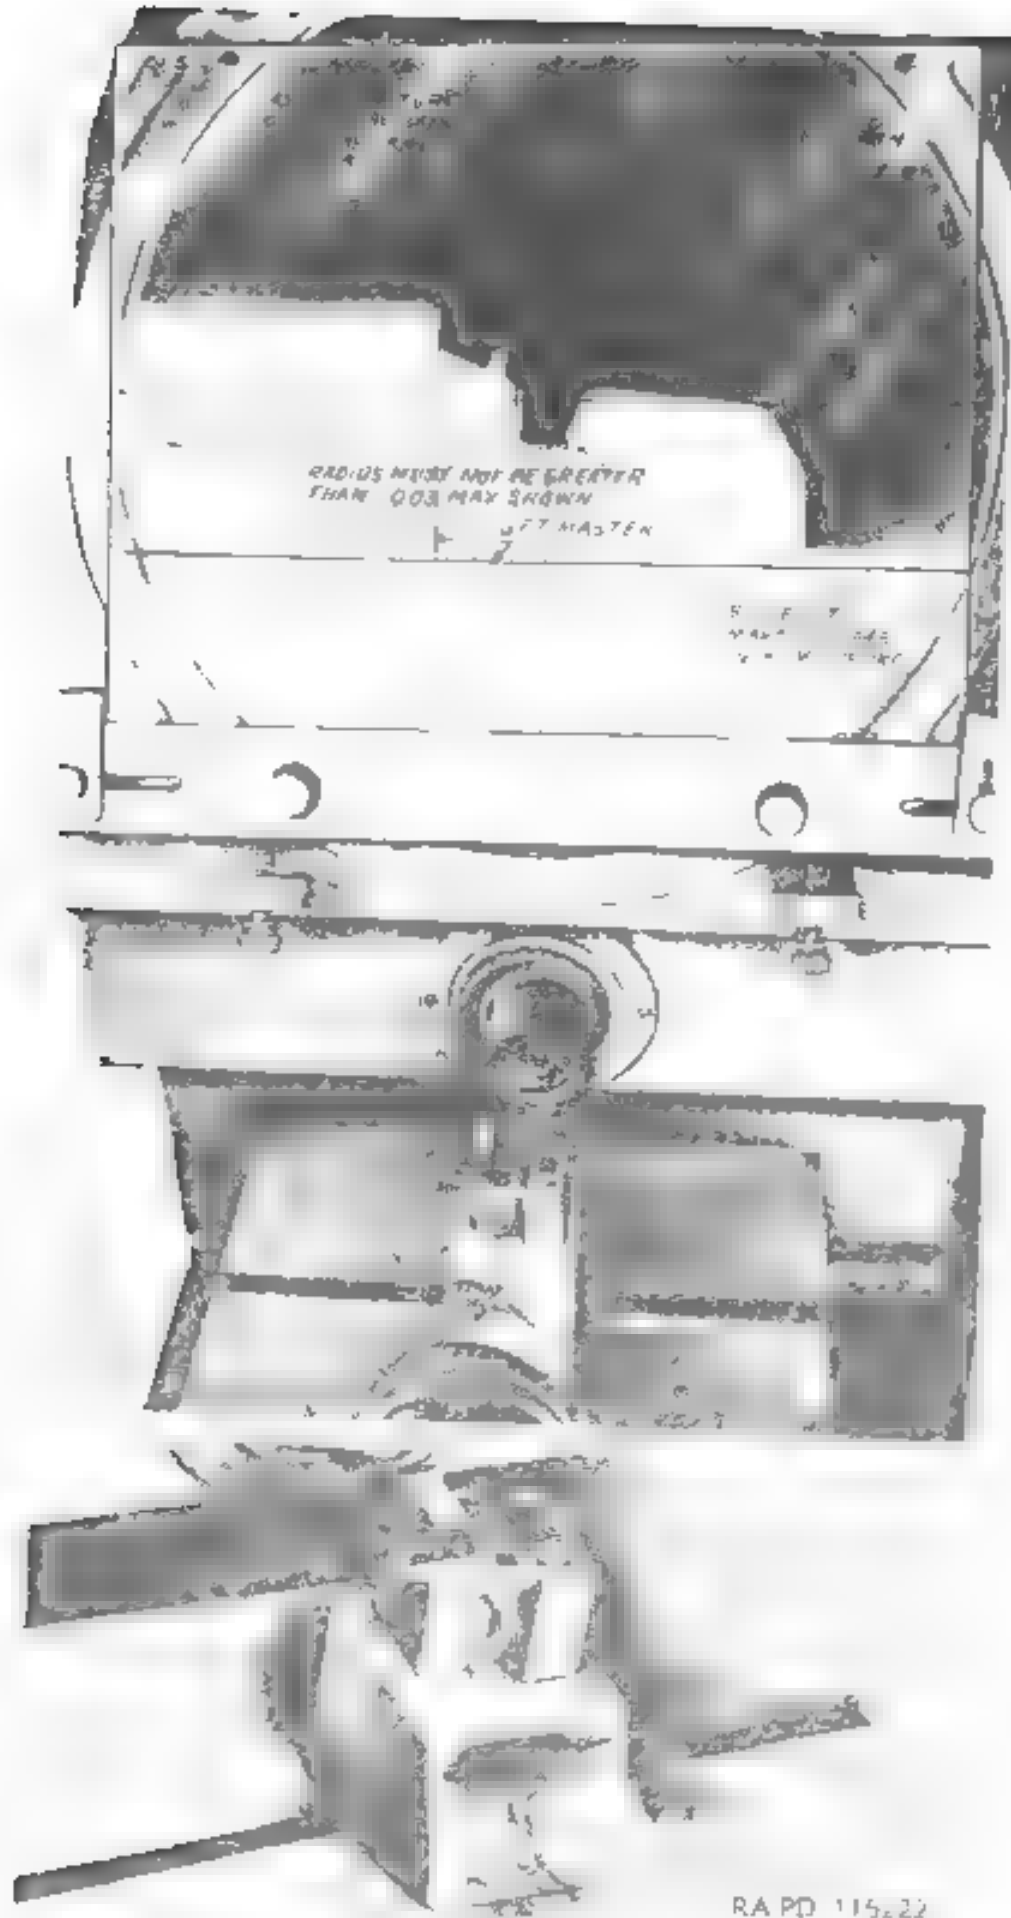

Figure 121 Screen and Fixture with trigger in position
- (2) On a satisfactory trigger the shadow of the contour being inspected, which is highlighted in figure 121, will fall within the limiting lines and conform to the other tolerances specified on the chart.
- (2) Insert the 10-power (82-mm) projection lens, specified in the lower right corner of the chart as the scale, into the lens bracket in the body of the comparator (fig. 121). The lens bushing, which is not needed for adapting the 10-power lens to the bracket, should be removed if still in place.
- (3) Locate the mirror assembly with respect to the 10-power stop pin.